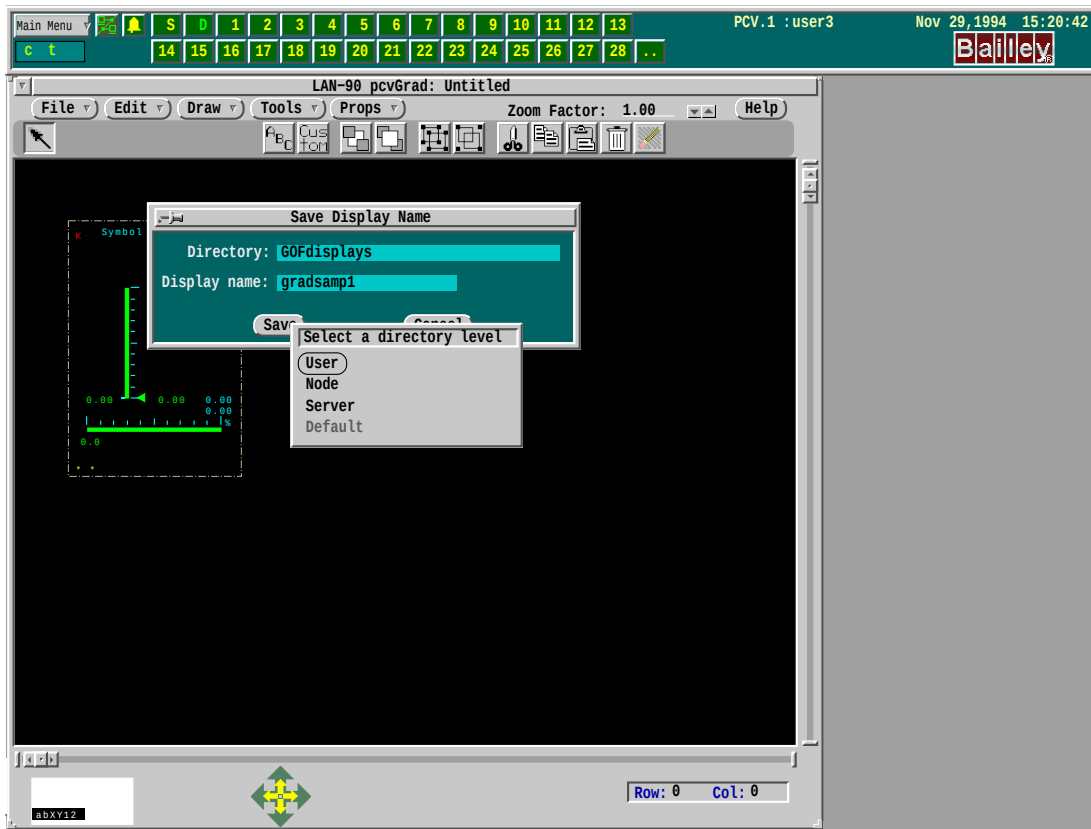

Figure 6-7. Saving to User Level
- Save to the User level (This is just an example) (Figure 6-7).